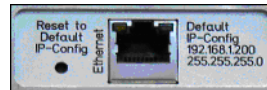

Figure 19 Ethernet connector and default IP address
- 2 Use a thin blunt instrument to carefully press the reset switch in the embedded hole beneath the label "Reset to Default IP-Config" (see Figure 19). Press and hold the button for one second. This resets the IP address immediately and permanently to the default value.